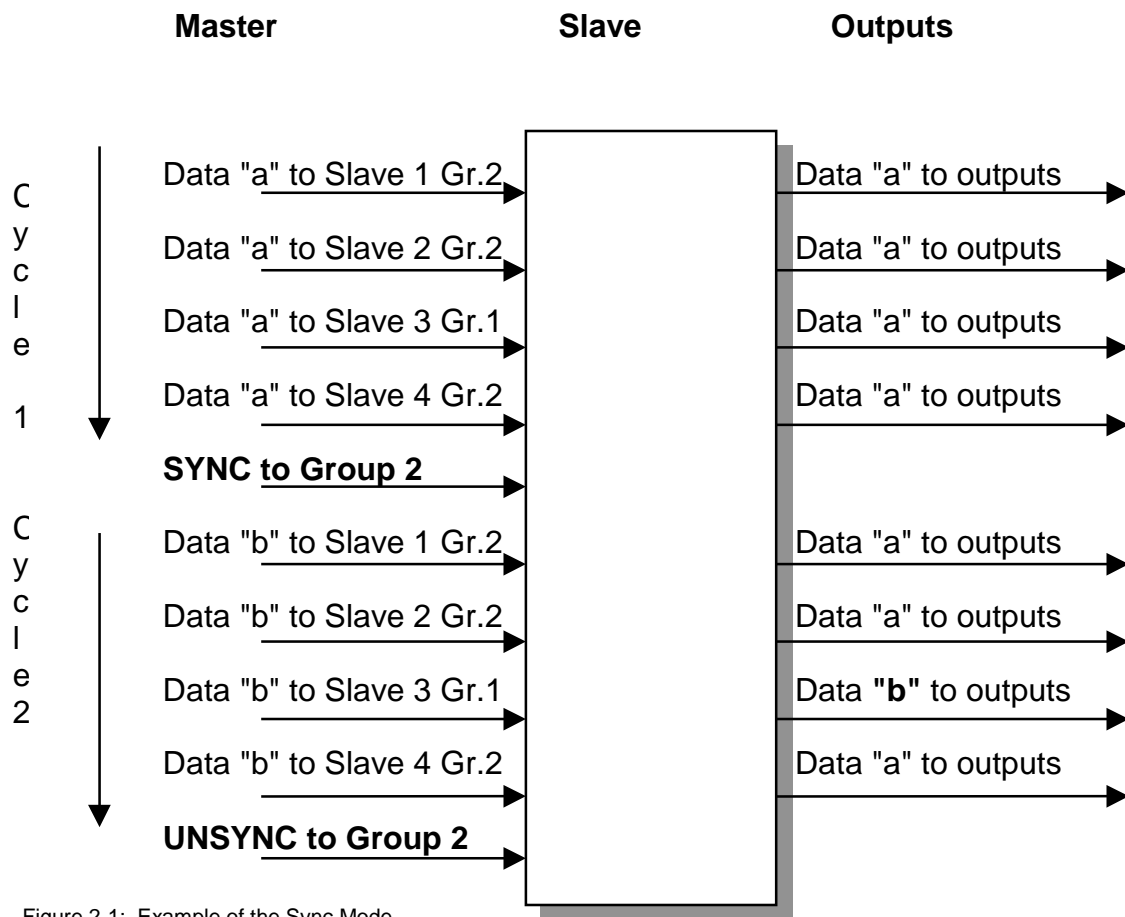

Figure 2-1: Example of the Sync Mode
Here it is specified whether the DP device is a modular station. Modular stations can be created from several modules. A list of the different modules that can be used in the field device is to be specified in the GSD(E) file. A module is either a physical unit (refer to Figure 2-1) or a logical unit. When configuring, the configuring engineer can symbolically select the modules defined in the GSD(E) file, and thus set up the modular station.